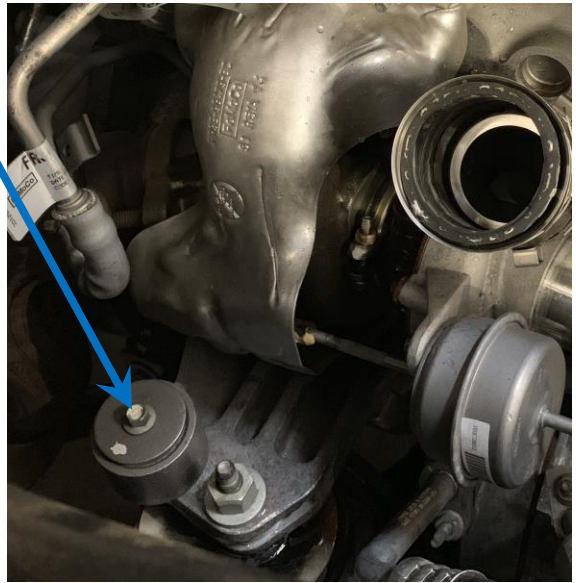

Fig. 27
1. Tighten bolt. See Fig. 27 (use 10mm socket) *Torque to 21 lb.ft (28 Nm)*